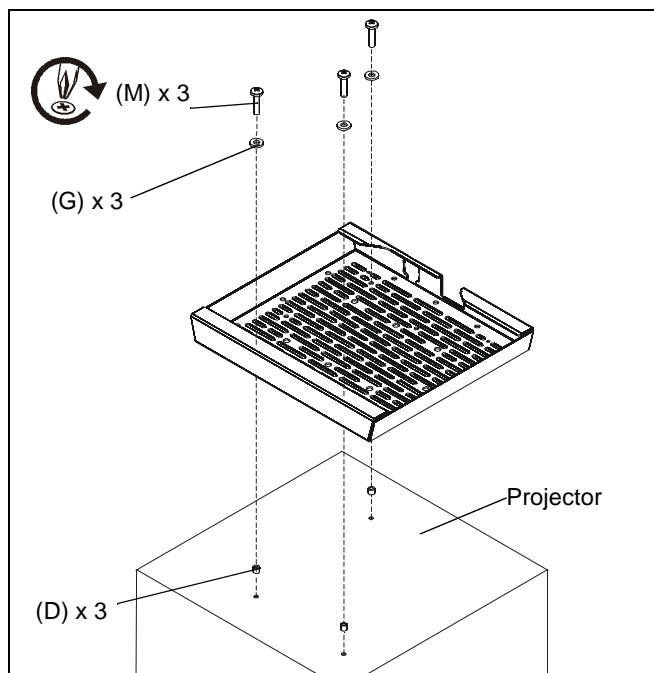

Figure 5
1. Align projector and security mount drawer so that the projector is oriented correctly and mounting holes are aligned. (See Figure 5)
2. Secure projector to mount using three M4 x 16mm Phillips head machine screws (M), three M4 washers (G) and three small spacers (D). Spacers should be placed between projector and mount. (See Figure 5)